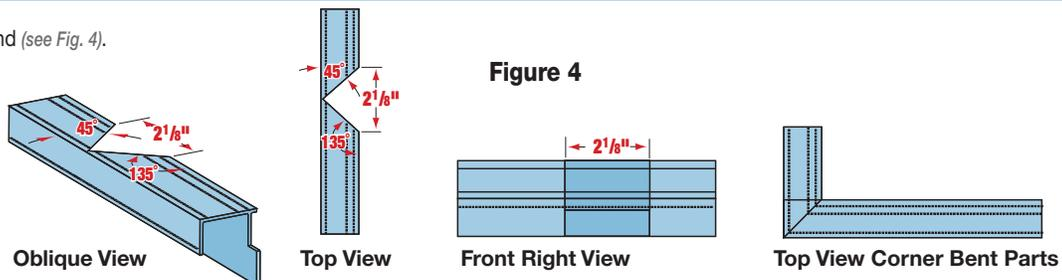

Figure 4
1. Cut "L" channel and bend (see Fig. 4).